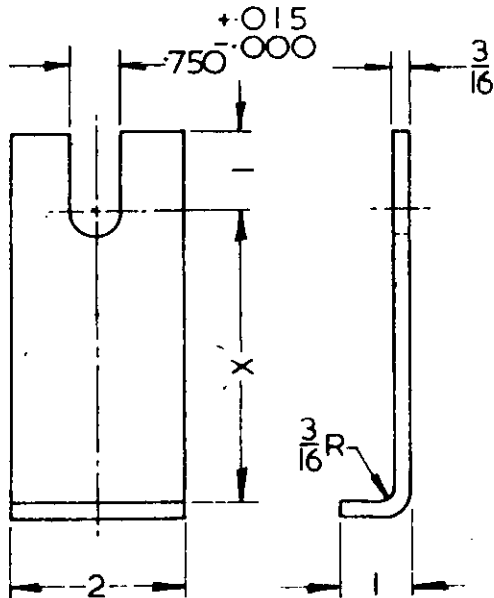

FIG 1 - BRACKET
- b. Manufacture the support bracket, noting that the clearance between the bottom of slot to the bottom of control shaft is approximately ¼ inch (Fig 1).